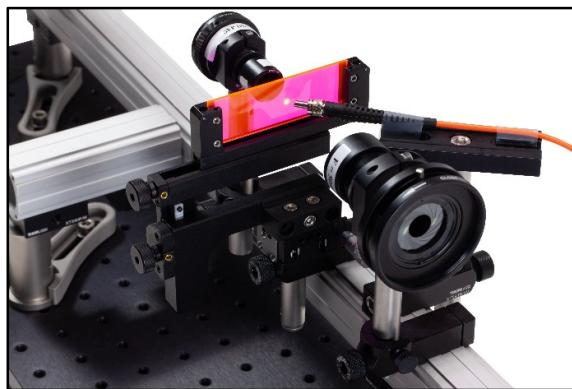

Figure 1: Fiber positioning to collect spectrum from illuminated area of pink slide.
- You will need to get the end of the fiber right in next to the spot of light, aimed at an angle toward the lit spot on the slide so you do not just pick up a reflection from the condenser light (see Fig. 1, below). This requires a bit of messing around, and you may need to turn up the integration time on the spectrometer to get a nice spectrum. **Caution: Do NOT touch the fiber end face to anything or bend the fiber cable in a circle smaller than 24 mm (about 1") – these will damage it!**